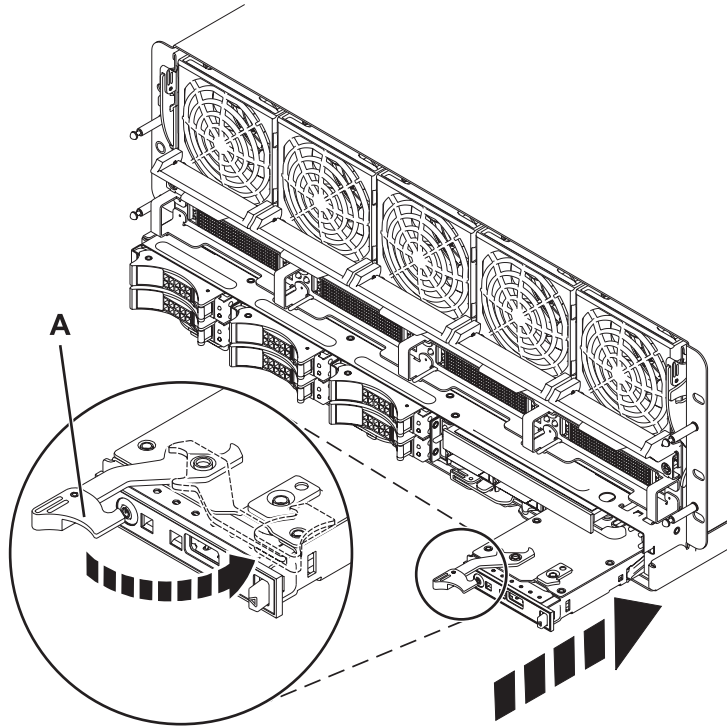

Figure 2. Installing a control panel
4. Install the new control panel, as shown in Figure 2 on page 8.
- c. Move the locking arm (A) to the right, and press in on the latch to lock in place, as shown in the following figure.